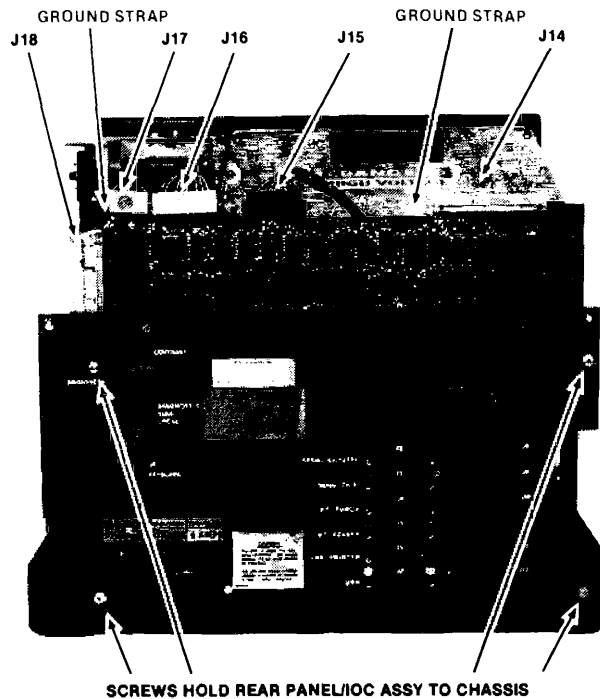

Figure 4-1 Rear Panel Removal
1. Power-down the development system and attached peripherals, disconnect power cord(s), and disconnect all cables attached to the development system's rear panel. Refer to figure 4-1 for cable connections.
4. Refer to figure 4-1 and disconnect the cables from connectors J14, J15, and J16. If the development system includes an integral flexible disk drive, disconnect the cables from connectors J17 and J18. Disconnect any associated cable ground braids at the IOC.
5. Refer to figure 4-1 and remove the rear panel mounting screws. Pull the panel away from the chassis and disconnect the Winchester interface internal cable assembly from the panel's J10 connector slot.
3. Reconnect the remaining cables and ground braids to their appropriate connectors on the IOC board (connectors J14 through J18; see figure 4-1).